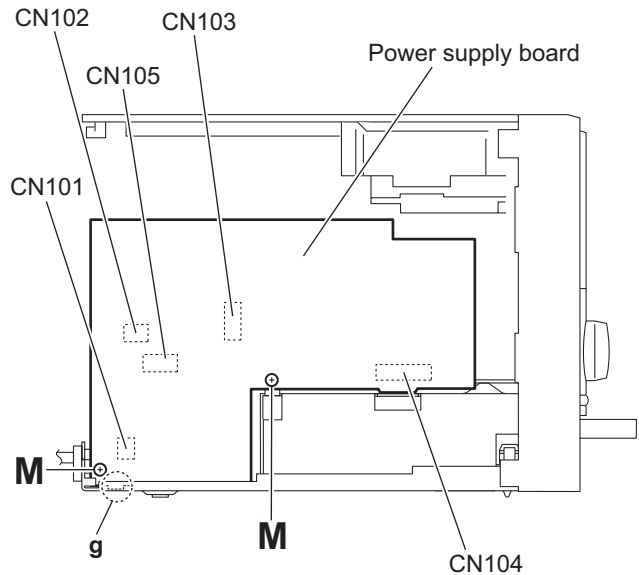

Fig.18
3.1.11 Removing the power supply board (See Fig.18)